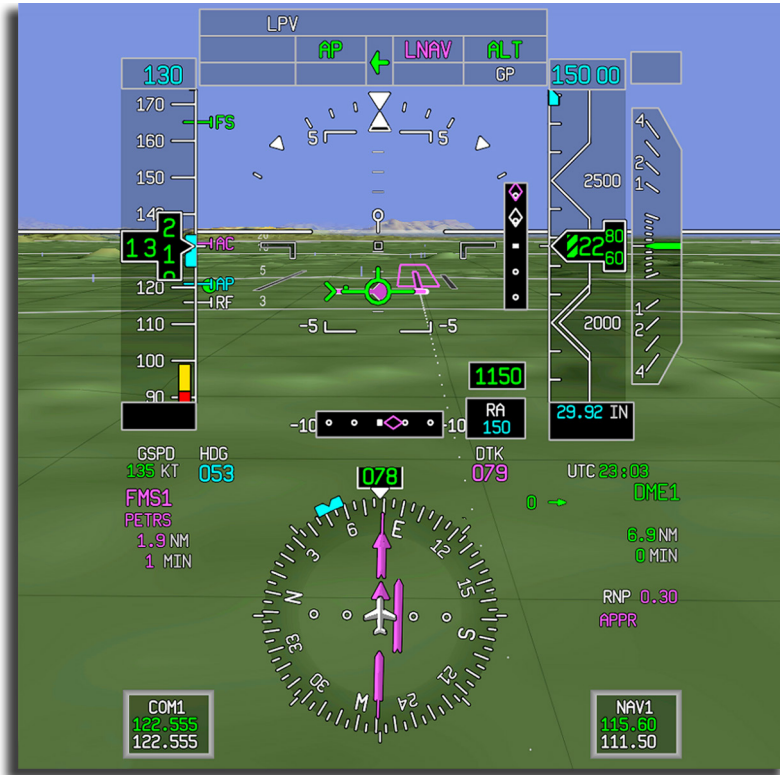

Figure 10-43
4. Push the **APPR** button on the guidance panel to arm the LPV mode. The **LPV** armed annunciator is displayed when the LNAV and GP modes are armed or active. Figure 10-43 shows the **LPV** armed annunciator.